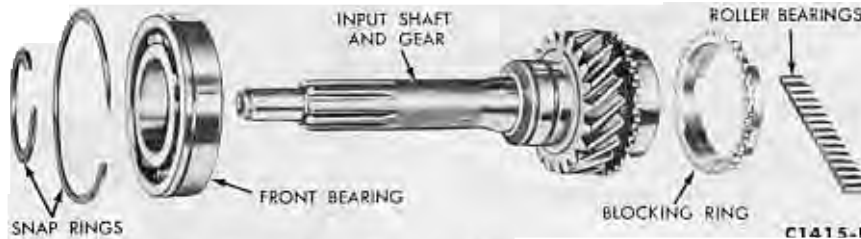

FIG. 15—Input Shaft Gear—Disassembled
1. Remove the snap ring securing the input shaft bearing (Fig. 15), and press the input shaft out of the bearing.
10. Coat the bore of the input shaft and gear with a thin film of grease. A thick film of grease will plug the lubricant holes and prevent lubrication to the bearings. Install the bearings (Fig. 15) in the bore.